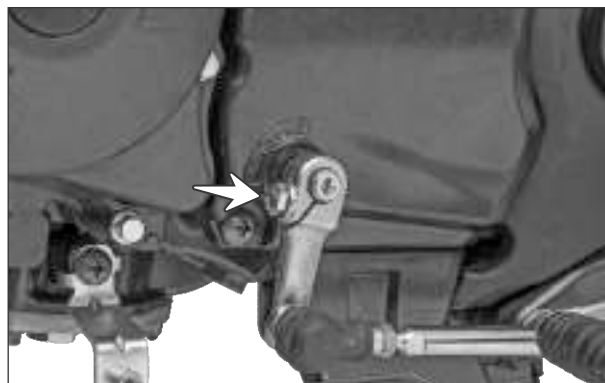

Fig. 3.101
- ! Remove hexagonal screw (M6x20 - 1 no.) from the arm gear shift lever mounting. (Fig. 3.101)